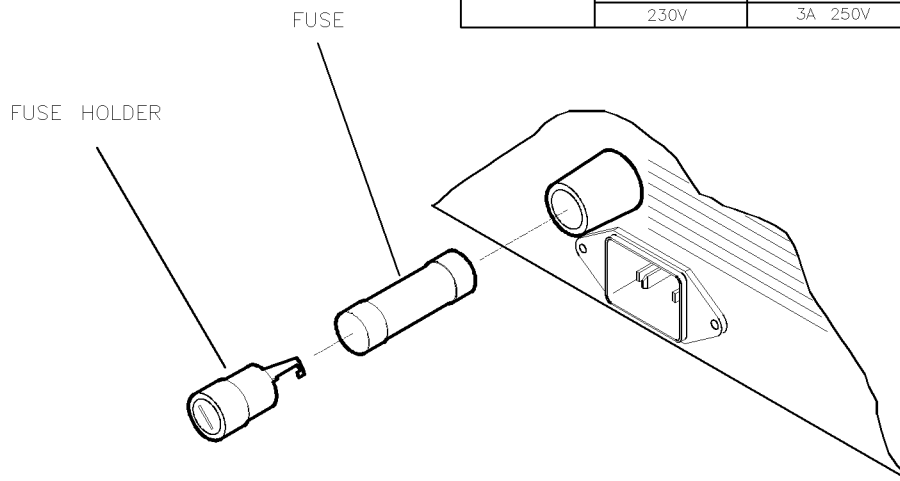

Figure 10-2. Replacing the Line Fuse
3. Refer to Figure 10-2. Using a small flat-blade screwdriver, rotate the fuse cap counterclockwise, and remove the fuse holder.
WARNING **For continued protection against fire hazard replace line fuse only with same type and rating (refer to Figure 10-2). The use of other fuses or material is prohibited.**